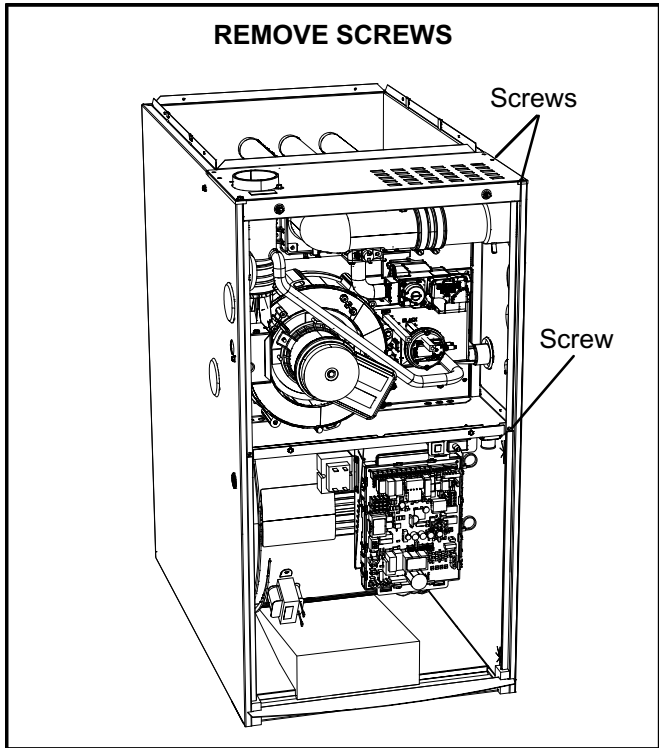

FIGURE 4
- 5 - Remove the air intake coupling. If the air intake coupling is still too difficult to remove, then remove the two screws from the right side of the top cap and one from the far right side of the blower deck that attaches to the cabinet. See figure 4. Carefully pull cabinet side away from air intake coupling, then remove the air intake coupling. **Note: Be careful not to bend the cabinet side.**